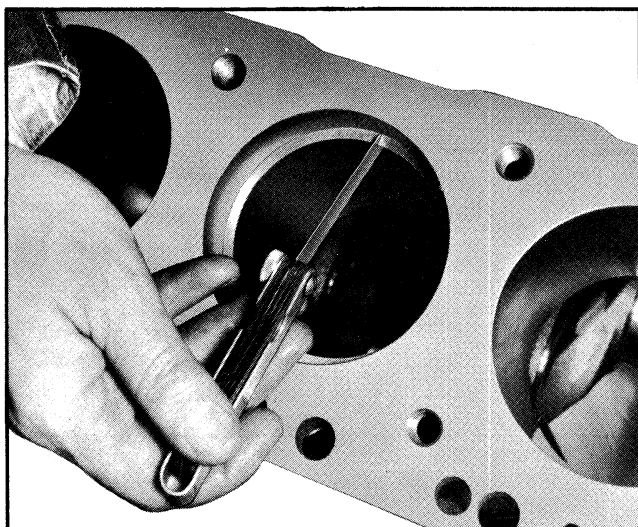

Fig. 6-71 Checking Ring Gap
3. Measure gap between ends of ring with feeler gauge (Fig. 6-71). Gaps should be as follows: